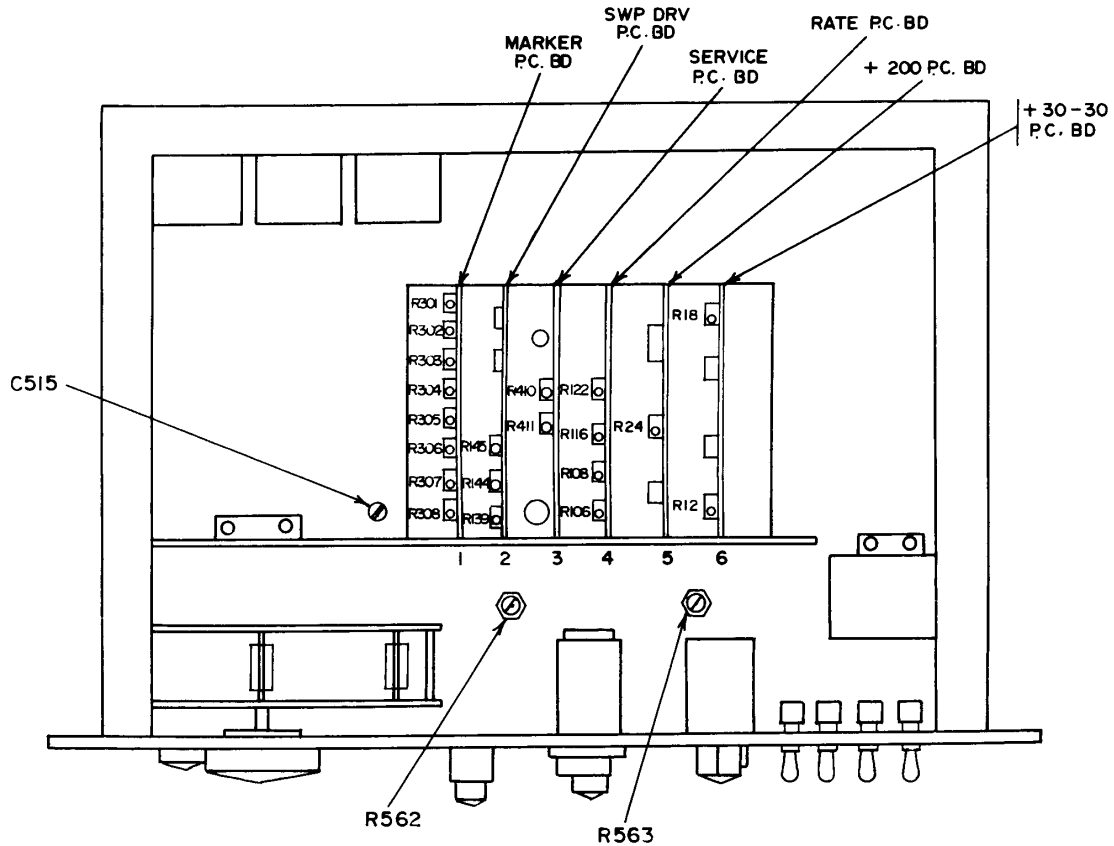

Figure 1. Adjustments locations - (top new).
- (1) Set TI RANGE switch to UHF TI FREQUENCY dial to 1200 MHz, and the TI SWEEP WIDTH control to NAR position with TI SWEEP WITH ADJUST control counterclockwise.
- (2) With TI RF OUTPUT control full clockwise, adjust R410 (fig. 1) (LEVEL MAX) for a 6-milliwatt indication on power meter (R).
- (3) Readjust TI RF OUTPUT control for a 5-milliwatt indication on power meter, and adjust R562 (fig. 1) (METER CAL) for 0.5 volt rms as indicated on TI RF OUTPUT meter (R).
- (4) Turn TI RF OUTPUT control fully counterclockwise and adjust R411 (fig. 1) (LEVEL MIN) for a power level 10 dB down from (3) above R.
(5) Set the TI SWEEP RATE control to the VAR position.
(6) Rotate the TI SWEEP RATE ADJUST control approx.  $\frac{3}{4}$  clockwise.
(7) Adjust R108 (fig. 1) (UP TRIG POINT) so that the oscilloscope trace extends to the extreme right vertical graticule line (R).
(8) Adjust R116 (fig. 1) (LO TRIG POINT) so that the oscilloscope trace extends to the extreme left vertical graticule line (R).
(9) Alternately adjust R108 and R116 so that the oscilloscope trace extends from the extreme left to the extreme right vertical graticule lines.
(10) Set the SWEEP RATE control to the LINE position.
(11) Alternately adjust R122 (fig. 1) (LINE TRIG AMPL) for trace width and R106 (LINE DC LEVEL) for trace position so that the oscilloscope trace extends from the extreme left to the extreme right vertical graticule line (R).
(12) With the SWEEP RATE control set to the MAN position, note the extreme positions of the oscilloscope beam as the SWEEP RATE ADJUST control is rotated from counterclockwise to clockwise.
(13) Set the SWEEP RATE control to the VAR position and then to the LINE position. The oscilloscope trace extremes obtained from each of these positions will be in coincidence with the trace extremes of the MAN position.
(1) Adjust R301 (fig. 1) for a 30-millivolt peak-to-peak 1 MHz marker.
- (3) Adjust R303 (fig. 1) for a 100-millivolt peak-to-peak 50 MHz marker (R).